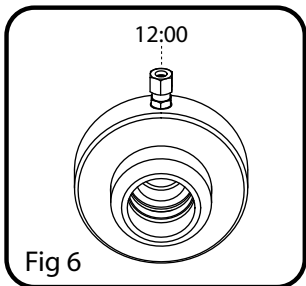

Fig 6
11. Rotate drain port on adaptor body (6) to location of your choice (usually at 12:00 position) **[FIG 6]**